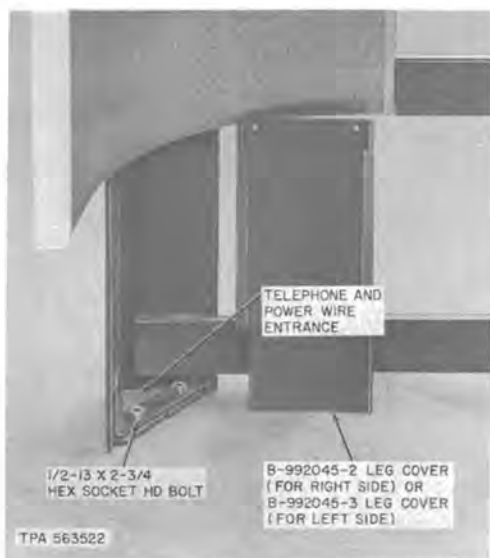

Fig. 22—List 14 Leg Assembly Bolted to Mounting Surface
using four 1/2-13 by 2-3/4 inch hex socket-head bolts (Fig. 22). Secure cross brace to expansion shields using two 1/2-inch flat washer and two 1/2-13 by 3-1/2 inch hex socket-head bolts. See **THINK** preceding (3).
- (5) Repeat 3.06 (7) through (9).